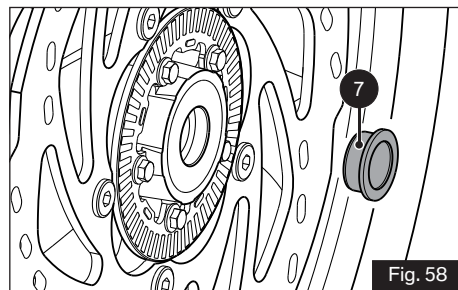

Fig. 58
- ◆ Take out the spacer bush (7) from the left side of the wheel hub (ref. Fig. 58).
- ◆ Loosen the mounting screw (8) and take out the speed sensor (9) from front suspension.
- ◆ Fix the spacer bush (7) on the left side of wheel hub (ref. Fig. 58).